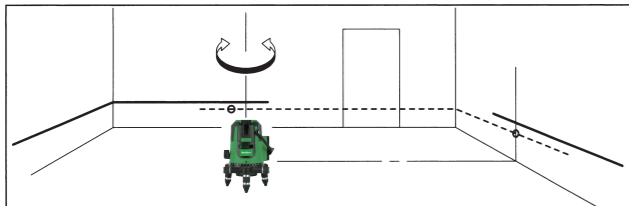

Fig. 7
1) Place the unit on the floor of an indoor corner at the point of 3 to 5 m from the one wall and 1 m from the another one. (See the Fig.7)